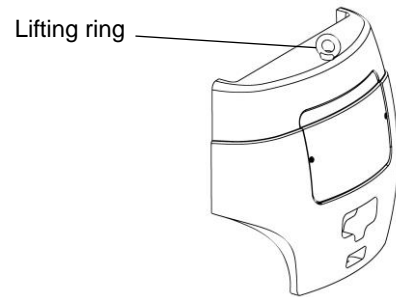

Figure 2-41
(3) Figure 2-41 shows the balanced lifting